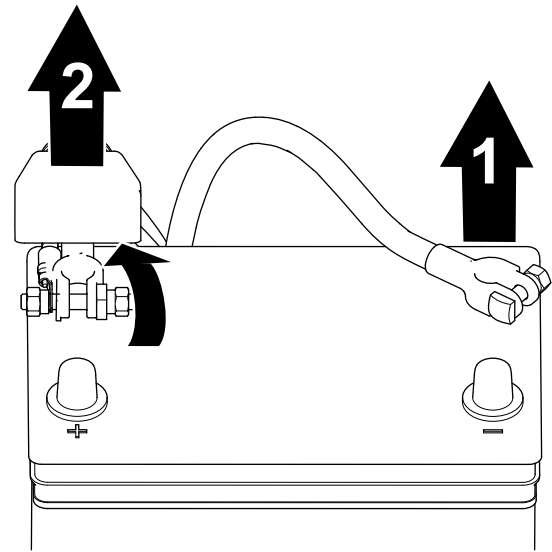

Figure 37
1. Remove the negative battery cable from the battery post (Figure 37).
2. Lift the insulator and remove the positive battery cable from the battery post (Figure 37).